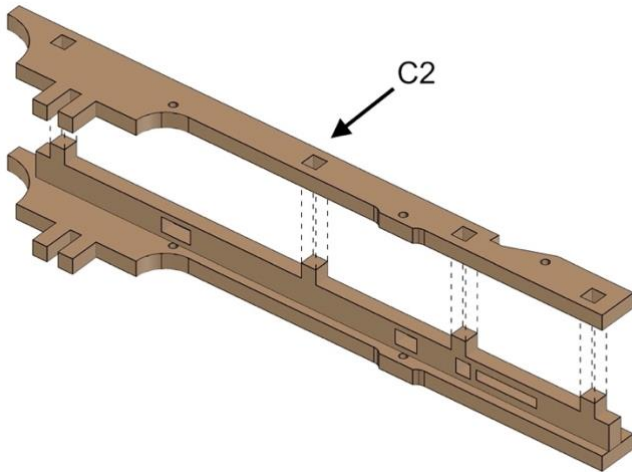

*Fig. 1*
- Align parts exactly as shown in *Fig. 1*.